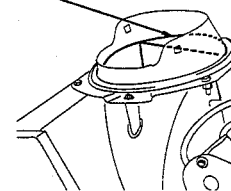

FIGURE 9B
3. At the beginning of each snow throwing season, remove discharge chute and generously lubricate the steel flange at the back of the rotating ring with light grease such as Lubriplate. Rotate the ring with crank to distribute the grease. See figure 9B.